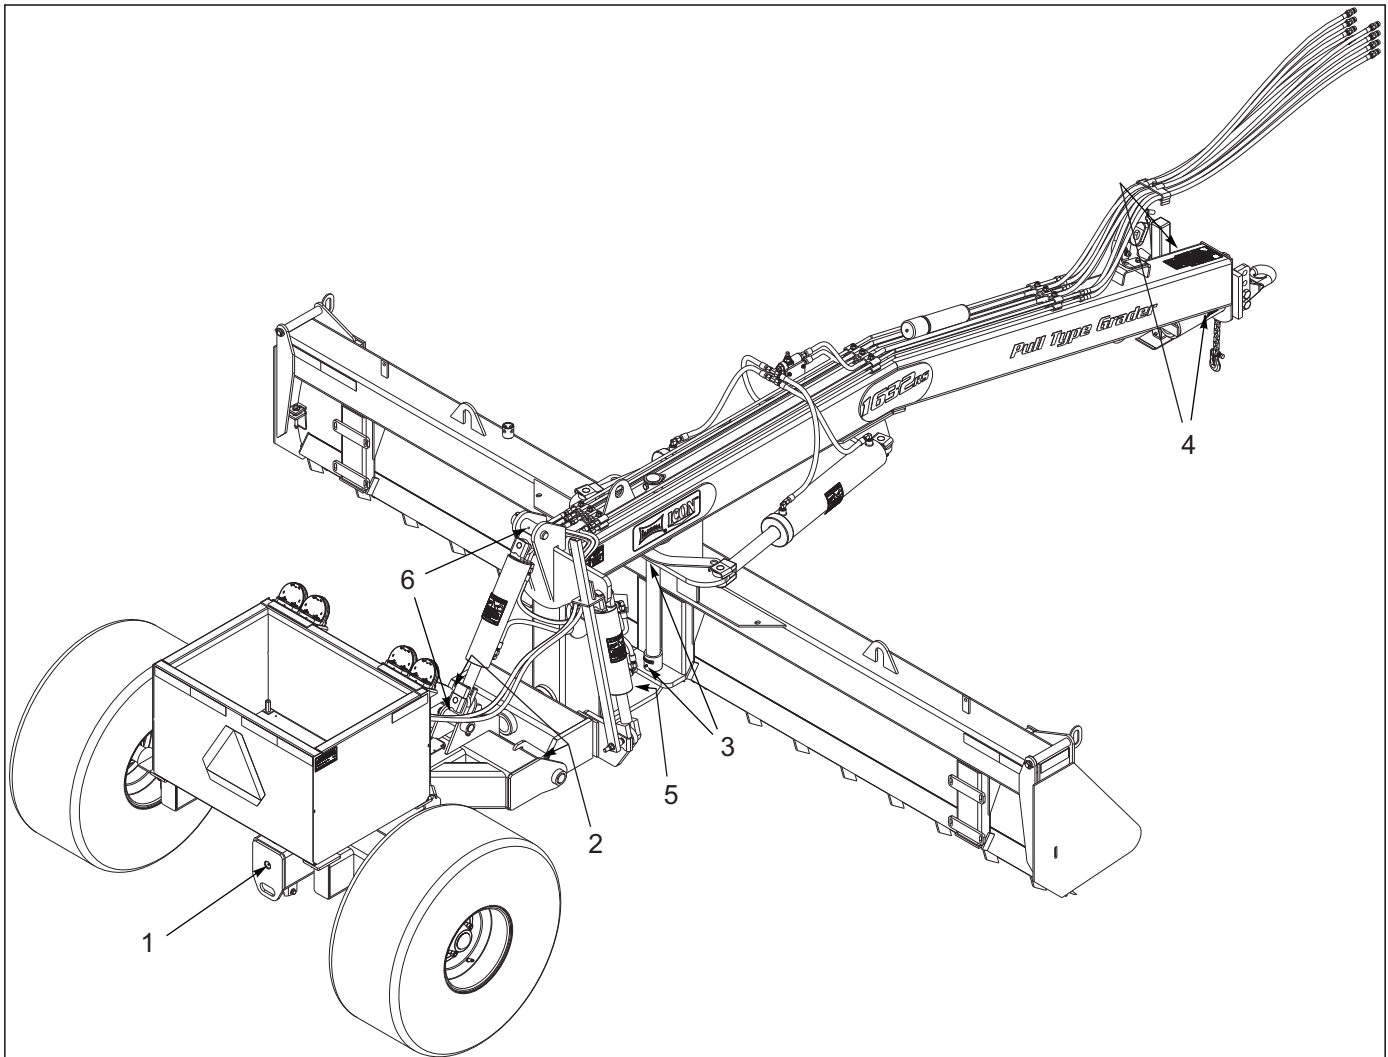

Figure 3-1: Lubrication Schedule
1. **Table 3-1** specifies the number and the period of lubrication points on the 1432/1432RS/1632/1632RS Grader. Proper maintenance of your machine will, under normal operating conditions, help to keep it operating at or near its peak performance for an extended period of time. Proper maintenance is also a condition of keeping your warranty in good status **See Figure 3-1.**